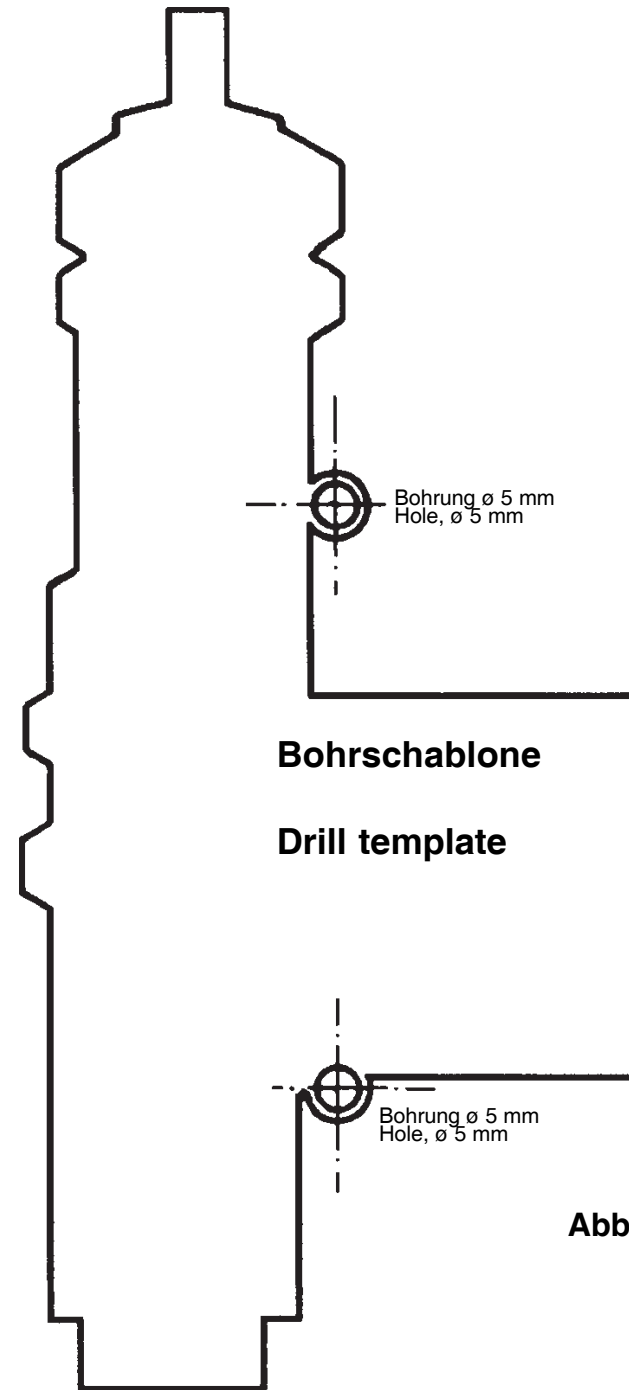

Abb. 4
Steuereinheit mittels Bohrschablone (Abb. 4) oder mit einer der beiliegenden Lochschienen (H) direkt am Türkörper befestigen.
Attach the control unit directly to the door by means of a drill template (Fig. 4) or one of the enclosed rails with punched holes (H). Move the control unit and the locking button into "unlocked" position and adjust the fastening clips (F) on the connecting rod (E) according to Fig. 1 and pinch off the excess part of the rod.